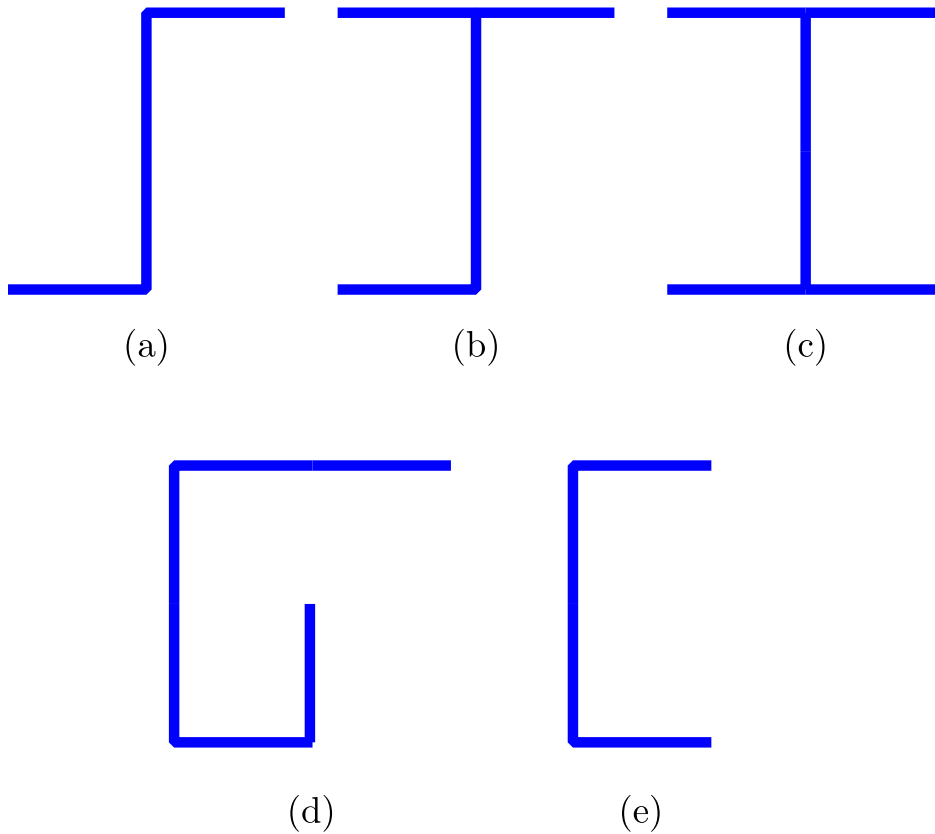

Figure 1: Sections for Question 2
2. Classify the off-diagonal second moment of area ( $I_{23} = \int_A X_2 X_3 dA \neq 0$ ) written about the area-centroid as positive, negative, or zero for the thin-walled sections shown in fig. 1. Assume constant thickness  $t$ . Make any other geometrically simplifying assumptions as appropriate.